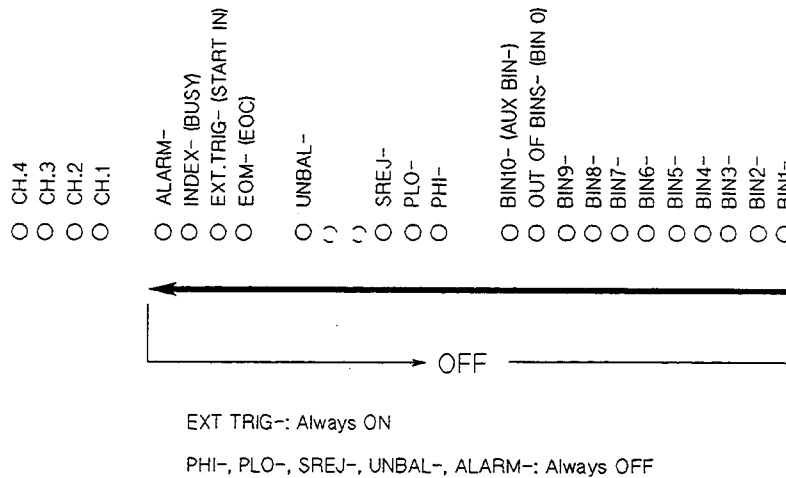

Figure 1-26. Handler Interface Function Check
13. Confirm that the LEDs on the handler simulator board turn ON in accordance with the HP 4285A's output signals displayed on the LCD. The LEDs should turn ON in the sequence shown in Figure 1-26.